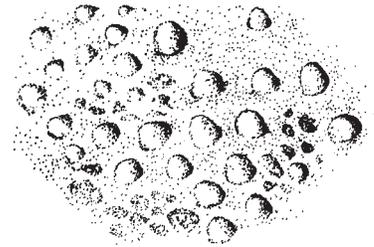

figure 4
A¹. Four pair of ventral prolegs present on abdomen C (see figure 4)
L. Skin bearing coarse granular (see figure 4). Caterpillar dingy brownish tan. Faint V-shaped markings on back. Spiracles black. Found on alfalfa, corn and vegetables. **Dingy Cutworm** *Feltia ducens*, *F. subgothica*